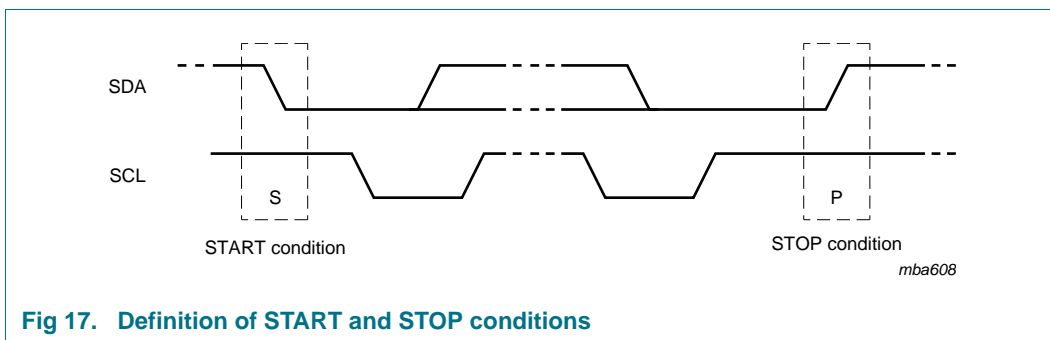

Fig 17. Definition of START and STOP conditions
Both data and clock lines remain HIGH when the bus is not busy. A HIGH-to-LOW transition of the data line while the clock is HIGH is defined as the START condition (S). A LOW-to-HIGH transition of the data line while the clock is HIGH is defined as the STOP condition (P) (see Figure 17).